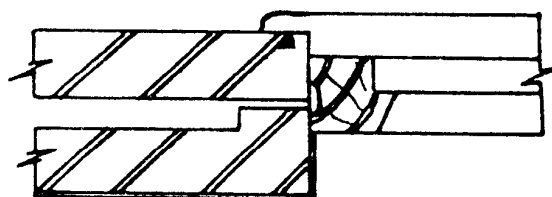

Fig.6
20. Fig.6 shows a horizontal section through part of a cavity wall and window jamb. Indicate clearly on the drawing the position of;